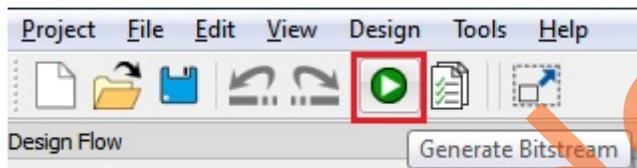

Figure 49 • Generate Programming Data
9. Click **Generate Bitstream** as shown in Figure 49 to generate the programming file.